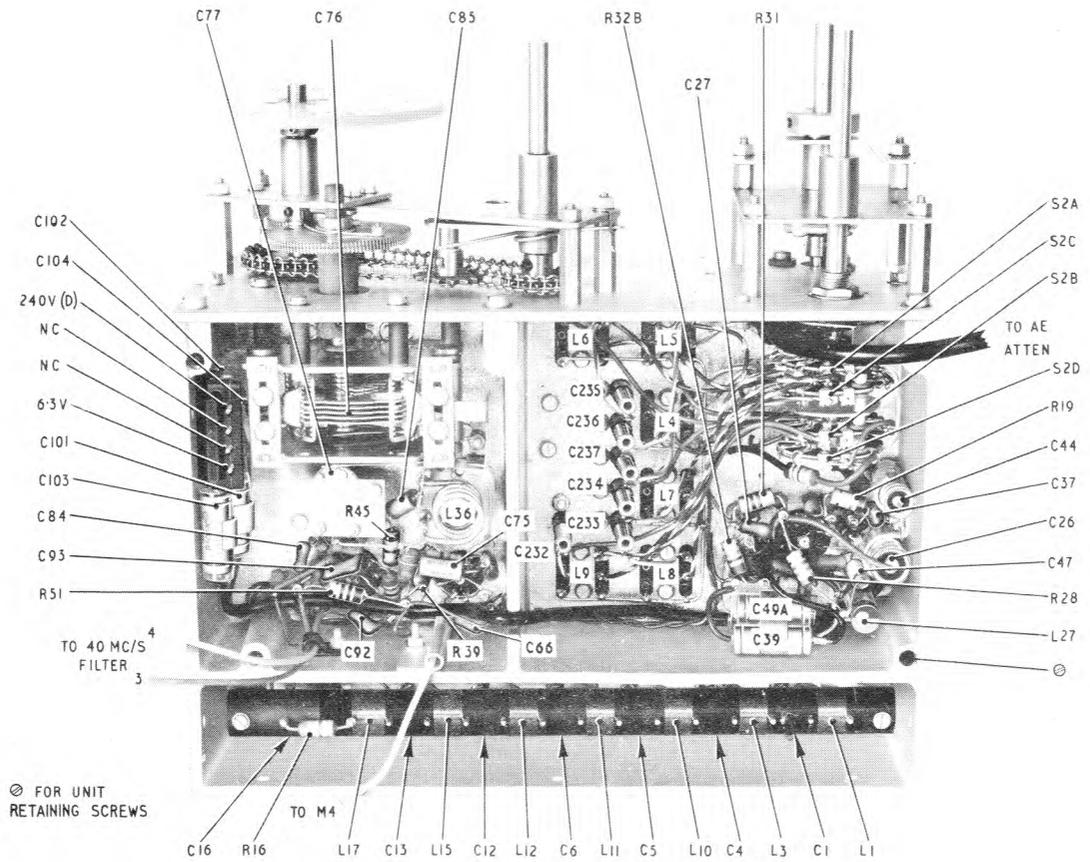

Fig. 3. First v.f.o. unit—underside
27. Remove the top core from the transformer L9 (fig. 3).